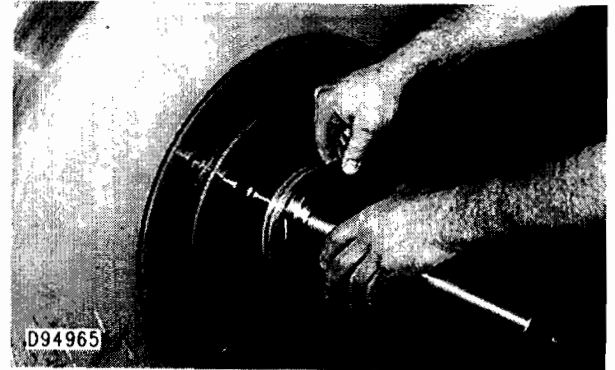

Figure 12
13. Remove the screws from the clamping rings. Remove the clamping rings and the inner race. See figure 12.